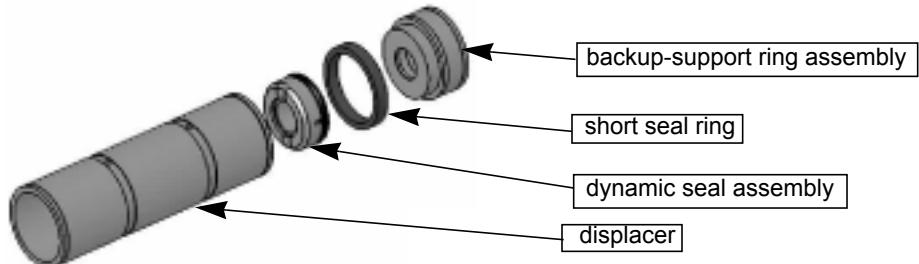

Figure 6-9
7. Before removing the **dynamic seal assembly** (Figure 6-9) from the displacer, inspect the **dynamic seal** for extrusion (Figure 6-12). Extrusion of seal material around the edges of the bore in the dynamic seal is expected.